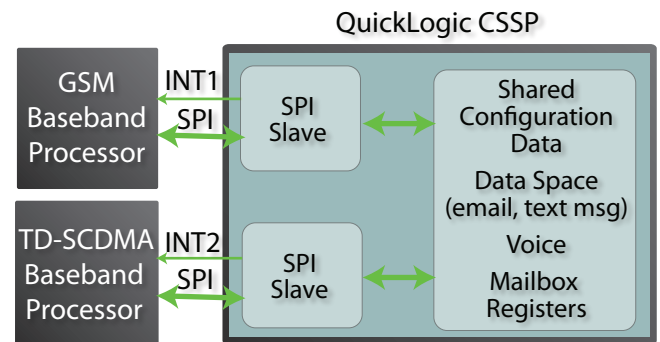

Figure 4. Medium Bandwidth Implementation
- Direct communication through a common interface port (Figure 4)
Figure 4 is implemented with SPI slaves, along with a mailbox storage, utilizing the built-in RAM block. This implementation is a better alternative than dual-port RAM structure, as less signals are used, simplifying the PCB layout. The CSSP can also be customized to assist in software implementation.